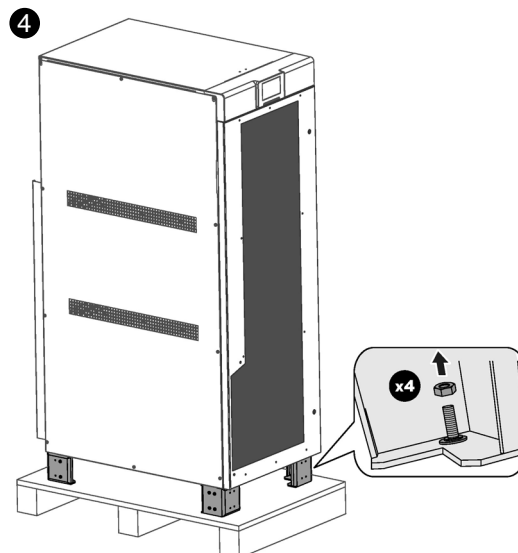

Fig. 31. Release of the equipment from the pallet.
- ❹ Unscrew the 4 screws located on the inside of each of the 4 legs. The equipment will be released from its pallet and ready for transfer (Fig. 31).